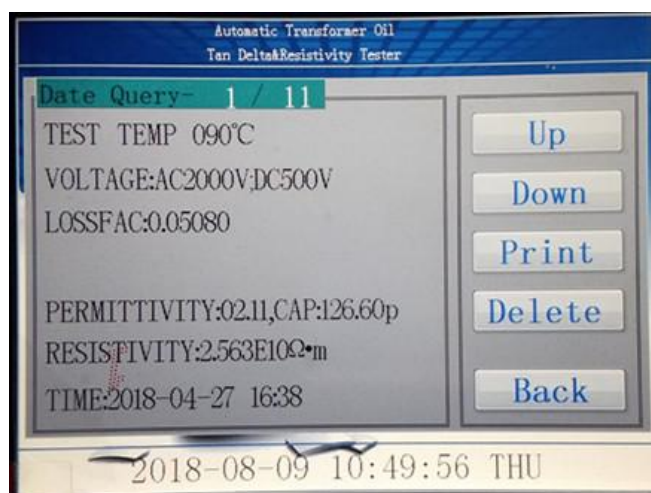

figure 8
7. Click on the data in Figure 3 to figure 8 query interface, click on page and the next page to read, you can click on the print, print the data; you can also click on the delete key to delete the data, press the eject button to return to the main interface.